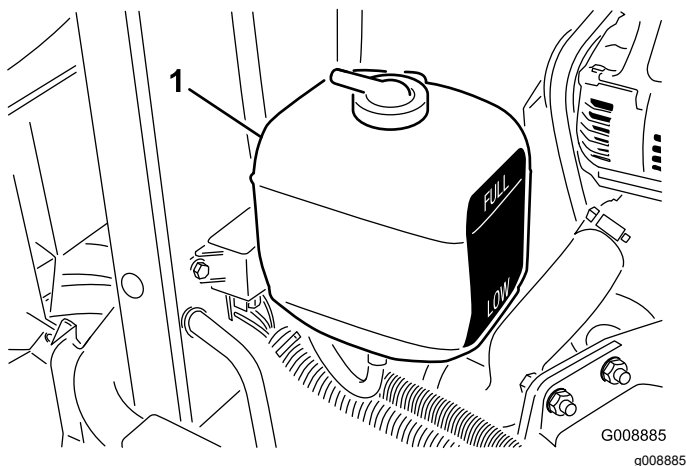

Figure 24
1. Check the coolant level in the expansion tank (Figure 24). With a cold engine, the coolant level should be approximately midway between the marks on the side of the tank.